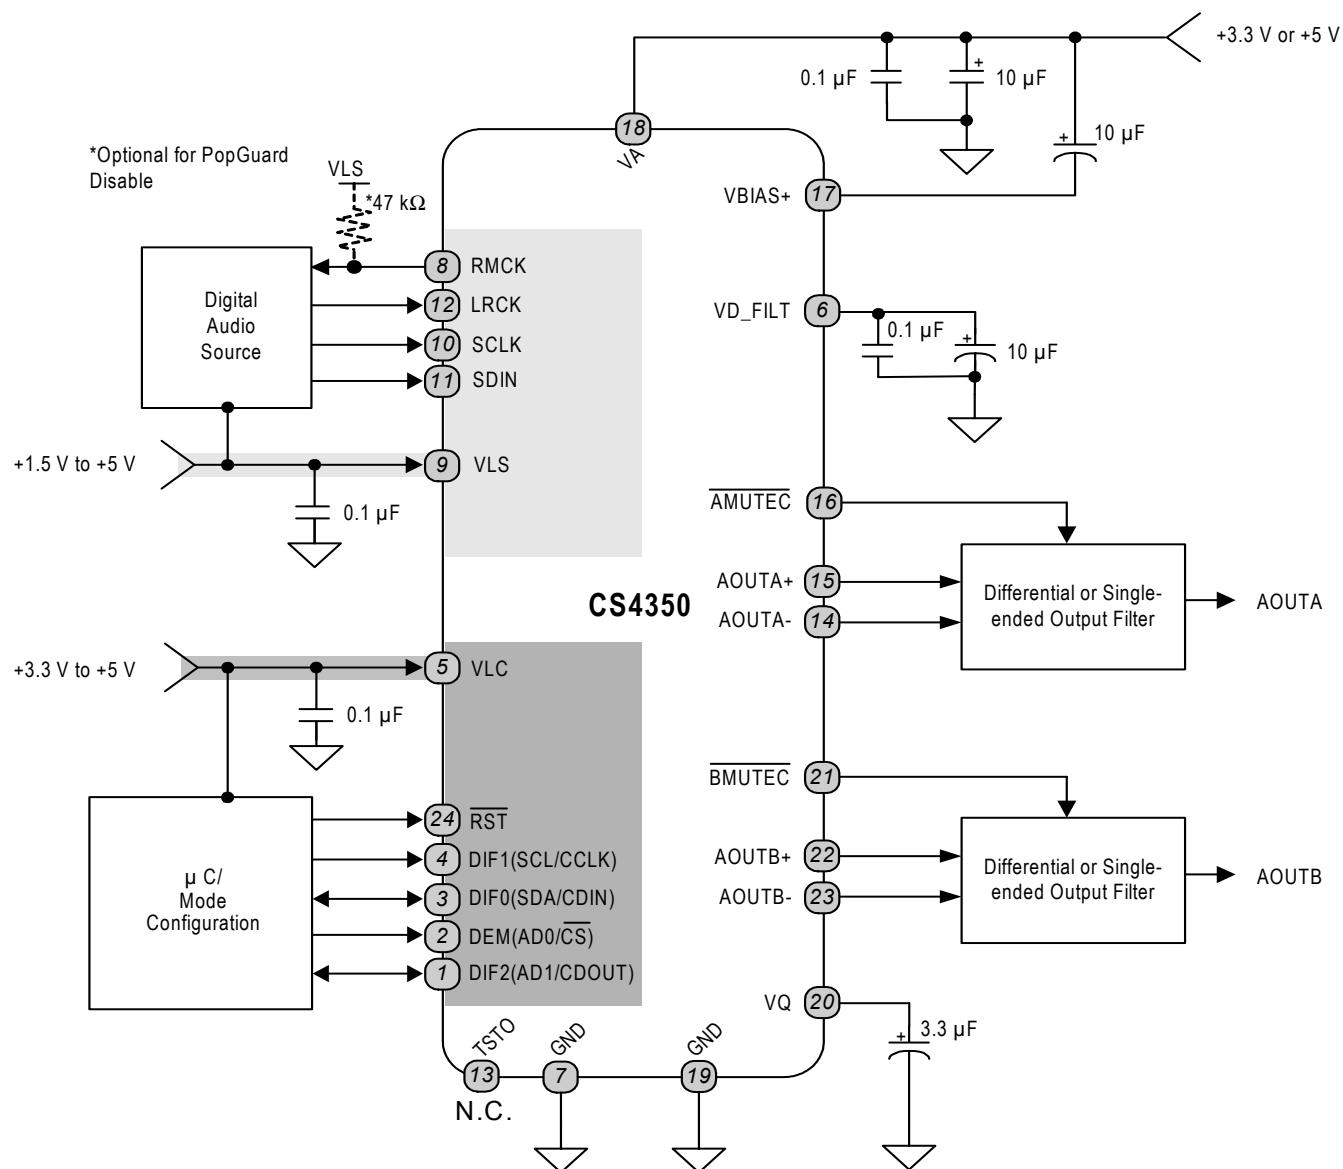

Figure 10. Typical Connection Diagram
20. Valid with the recommended capacitor values on VFILT, VQ, and VBIAS+ as shown in the typical connection diagram in Figure 10.
As with any high-resolution converter, the CS4350 requires careful attention to power supply and grounding arrangements if its potential performance is to be realized. Figure 10 shows the recommended power arrangements, with VA, VLC, and VLS connected to clean supplies. The use of split analog and digital ground planes is not recommended. However, if planes are split between digital ground and analog ground the GND pins of the CS4350 should be connected to the analog ground plane.